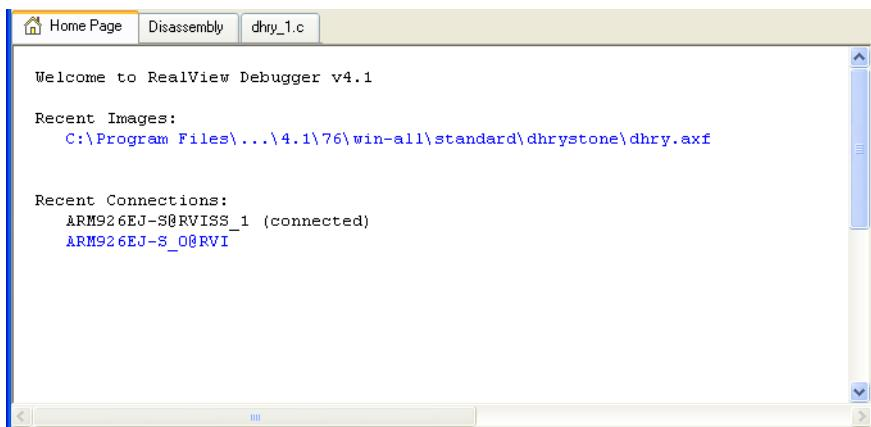

Figure 4-2 Home Page
2. Select **Home Page** from the **View** menu to display the **Home Page** in the Code window. Figure 4-2 shows an example. The Recent Images are listed at the top of the page.